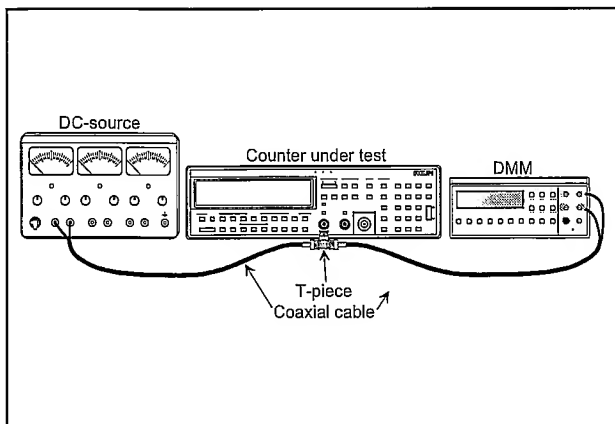

Figure 6-9 Connect a stable DC voltage to the A input of the counter.
- Adjust the trimmer ZERO=R384 (see Figure 6-9) until the output voltage is 0 V ± 1 mV.
- Adjust the trimmer FULL SCALE=R381 (see Figure 6-9) until the output voltage is 4.980 V ± 3 mV.